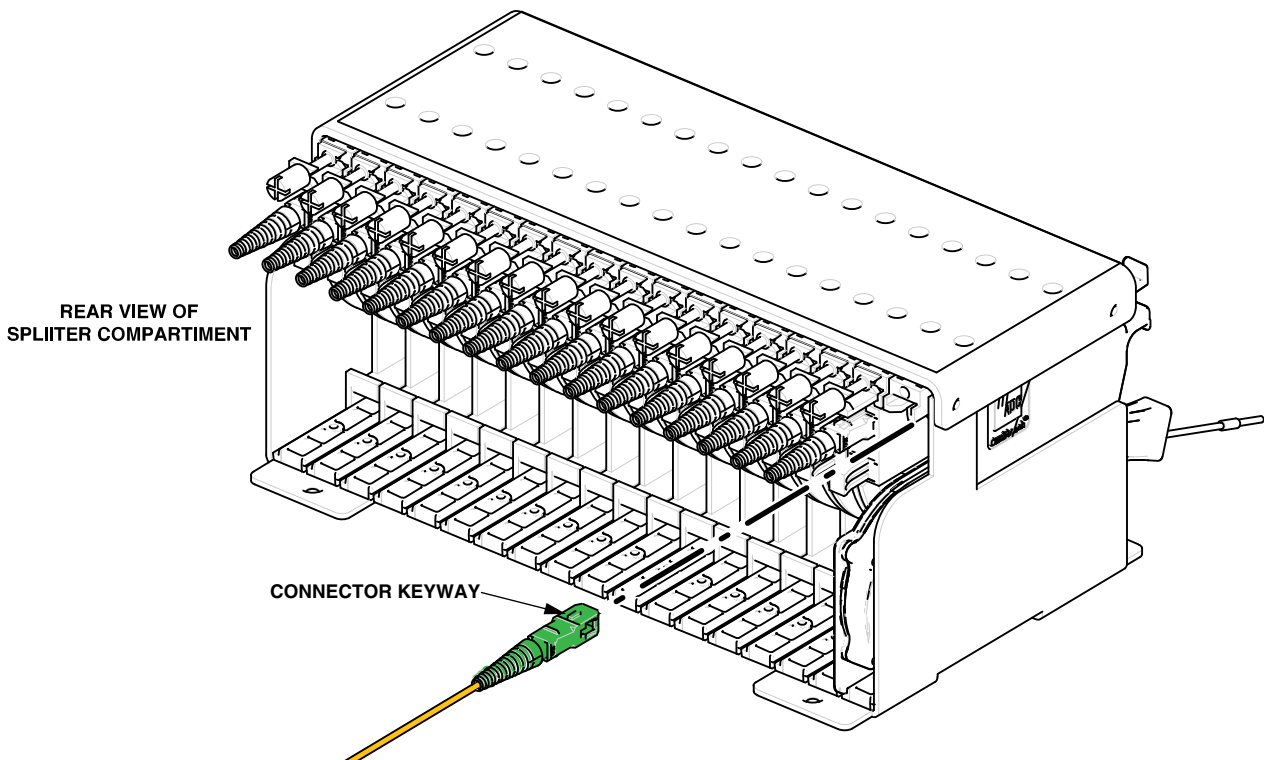

Figure 20. Feeder Cable Connector
13.4 Remove the corresponding feeder cable connector(s) from the rear of the splitter compartment as shown in Figure 20.